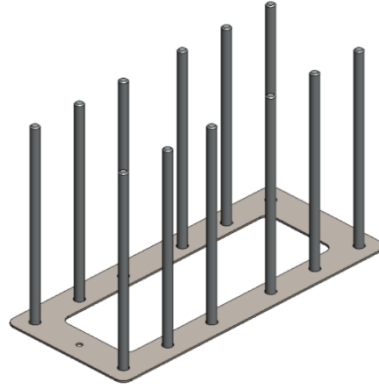

Figure 7 - Retention Plate and Anchor Bolts
- 3.3.2.3. Retention Placement – Place Supplied Retention plates and bolts **Figure 7 - Retention Plate and Anchor Bolts** into rebar cage. Align the bolts such that they do not interfere with the rebar cage. Tie the plate to the middle side bars to hold firmly in place.